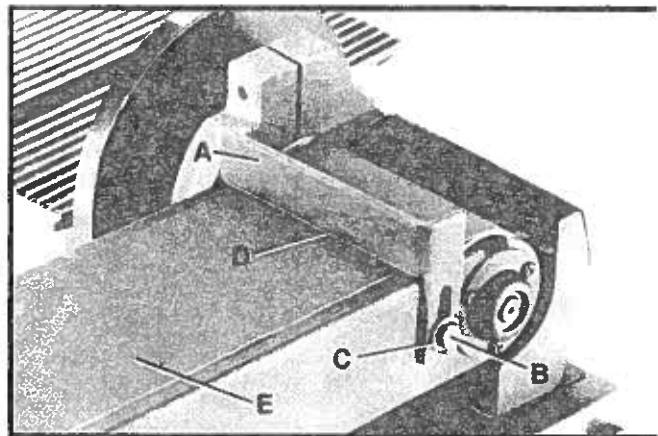

Fig. 14
1. Assemble backstop (A) Fig. 14, to the sanding arm using the 1/2" long hex head screw (B) and 5/16" flat washer (C). Do not overtighten screw (B). **WARNING: TO AVOID TRAPPING THE WORK OR FINGERS BETWEEN THE BACKSTOP AND SANDING BELT, THE EDGE (D) OF THE BACKSTOP SHOULD BE POSITIONED A MAXIMUM OF 1/16 INCH AWAY FROM SANDING BELT (E).**